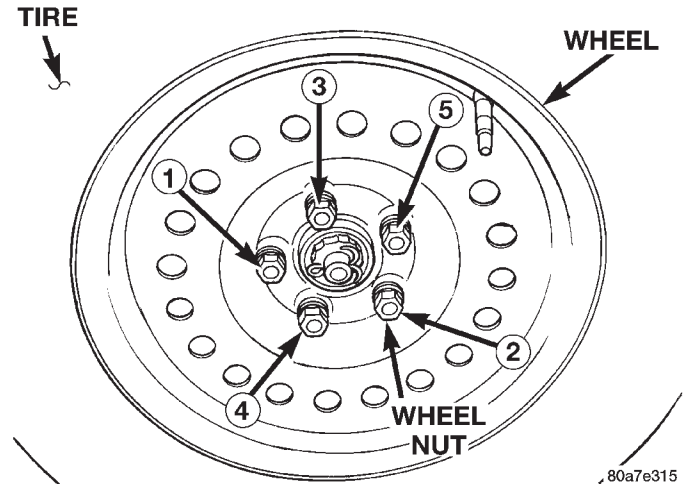

Fig. 9 Wheel Nut Tightening Sequence
- (1) To install the wheel, first position it properly on the studs and hub mounting surface using the hub pilot as a guide. Install and lightly tighten the wheel nuts in the proper sequence (Fig. 9).
- (2) Progressively tighten the 5 wheel nuts in the proper sequence (Fig. 9) until tightened to half of the specified torque. Then tighten the wheel nuts in the proper sequence to a torque of 135 N·m (100 ft. lbs.).
- (3) If equipped with wheel covers, align the valve stem notch in the wheel cover with the valve stem on the wheel. By hand, tap the wheel cover onto the wheel until it is fully seated against the wheel.